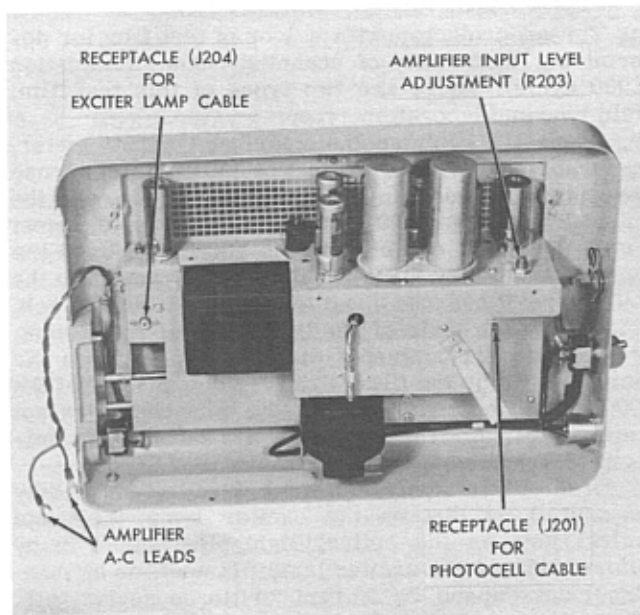

Figure 3-9. Rear View of Amplifier
- With TONE control in the normal position (NOR), turn the VOLUME control fully clockwise. With a screwdriver, adjust the control shaft of R203 (figure 3-9) so that 8 watts of audio power is being delivered to the 16-ohm resistive load (11.3 volts rms).